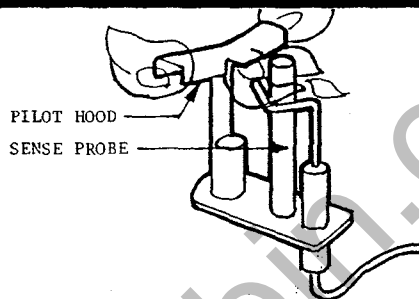
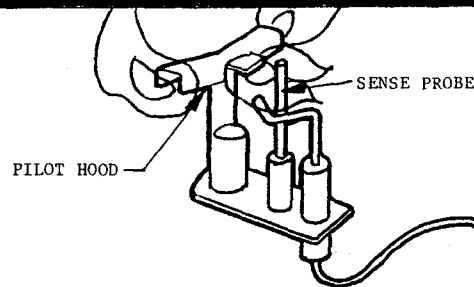

Figure 12a - Pilot Light Assemble and Hood, Electronic Ignition Models
Figure 12b - Pilot Light Assemble and Hood, Standing Pilot Light Models
On both the electronic ignition and standing pilot light models of the Sterling the pilot light flame should be large enough to engulf the sensor/thermocouple located just next to the pilot light (Figure 12a, electronic ignition models/Sterling EL; Figure 12b, standing pilot light models/Sterling MV), but not so large as to create excessive noise or consume excessive gas.
bent, dirty or otherwise defective pilot hood can result in difficult or non-ignition of the unit. The pilot hood should be positioned as shown in Figure 12a or 12b.
- 3 Electronic ignition Sterlings are equipped with a flame sensing probe at the pilot light assembly. This probe allows gas to flow to the main burners only if it senses the presence of a pilot light flame. On and off cycling of the unit may occur if the positioning of the flame sensing probe is not correct relative to the pilot light. Check the positioning of the probe on the unit as compared to the positioning of the probe as shown in Figure 12a.